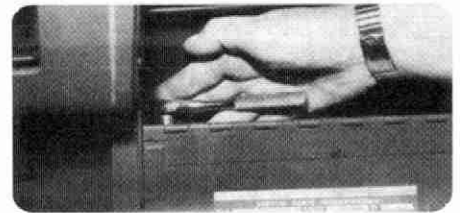
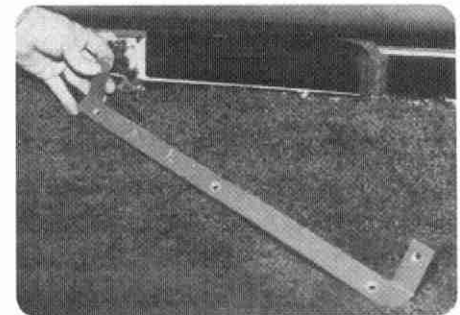

Figure 28
Figure 29
34. Install duct assembly making sure to get it through the enlarged hole in the firewall to prevent air loss. It may be necessary to trim some excess carpet. Left tab is screwed into instrument panel. Don't forget to install screw into "U" nut from inside the glovebox (Figure 28). Installation of duct assembly is now complete (Figure 29).